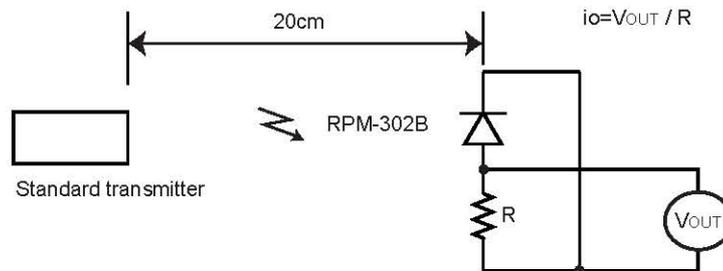

Fig.2 Measurement of standard transmitter proofreading
When standard transmitter output the signal at Fig.1 standard photodiode output become $i_o=5\mu\text{Ap-p}$ under the measurement condition Fig.2
(1) All characteristics of the receiver in this specification are specified by supplying burst wave form (Fig.1) with ROHM standard transmitter (Fig.2).